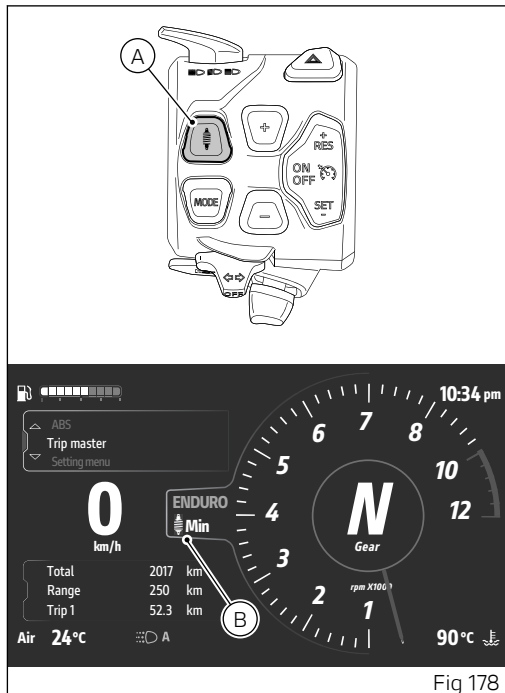

Fig 178
- 1) Press and hold button (A, Fig 178) for 2 seconds.
- 2) To confirm activation, "Min" (B, Fig 178) will appear on the instrument panel.
exceeded: following deactivation, the preload returns to its previous level depending on the specific Riding Mode and/or preload selected. It is also possible to manually deactivate the function at speeds below approximately 115 km/h (71 mph) indicated above by pressing and holding button (A, Fig 178) for 2 seconds.